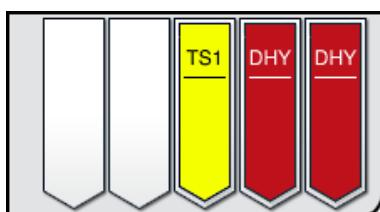

Fig. 86
- After a rack has run through the staining process, it is transported into the output drawer (→ "Fig. 20-4") and placed in an available position (→ "Fig. 86"). The user is informed of this by a message and a signal tone.